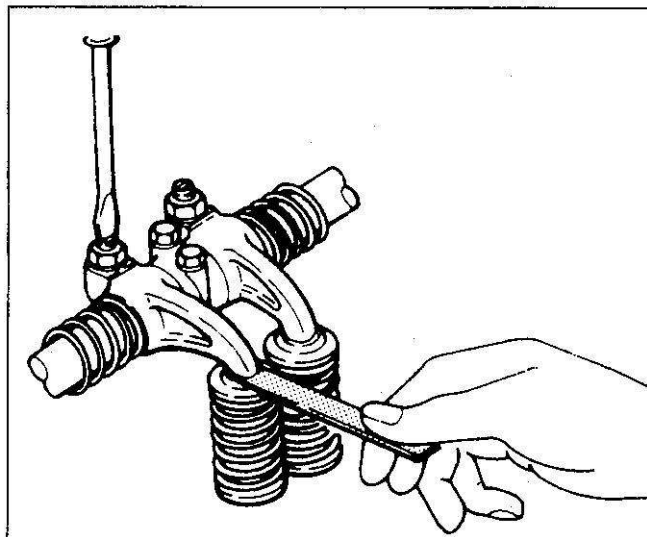

Figure 5. Adjusting Valve Clearance
5. Refer to figure 5. Use a 0.4 mm (0.016 in) feeler gage for both intake and exhaust valves.